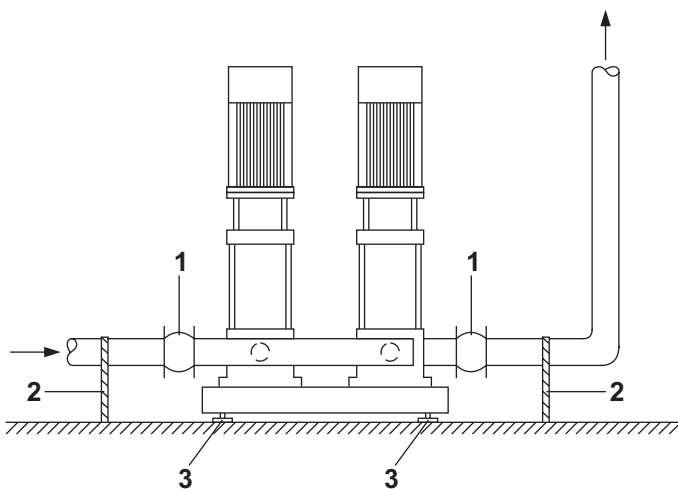

Fig. 6 Schematic view of hydraulic installation
**Note:** Expansion joints, pipe supports and vibration dampers shown in the fig. 6 are not supplied with a standard booster system.